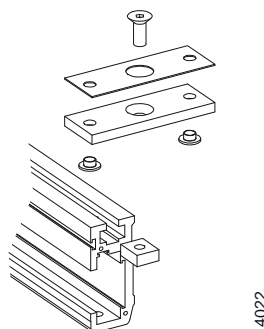

Fig. 2-1 Mounting kit for the ceiling rail Y
- Mounting kit for the ceiling rail Y (Unistrut mounting brackets, etc.) is included in the shipment. See Fig. 2-1 *Mounting kit for the ceiling rail Y*